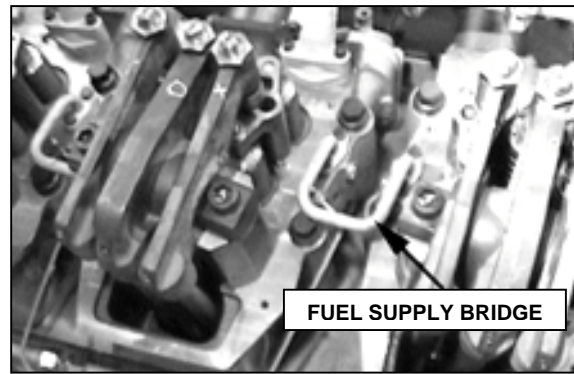

Fig.4 Disconnect the fuel supply bridges.
5. Disconnect fuel supply bridges (**Fig.4**).